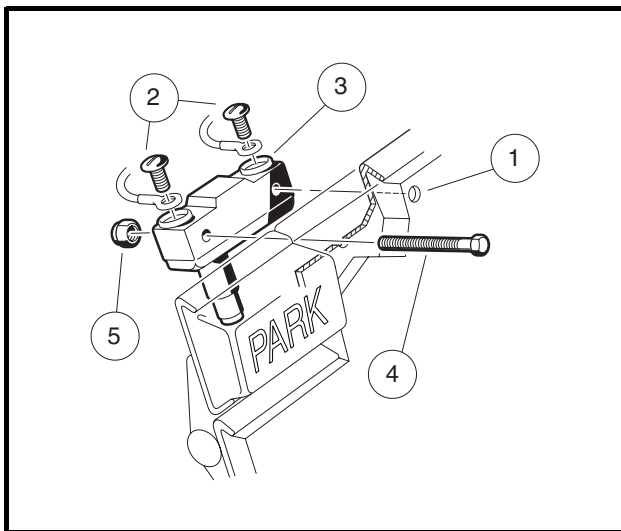
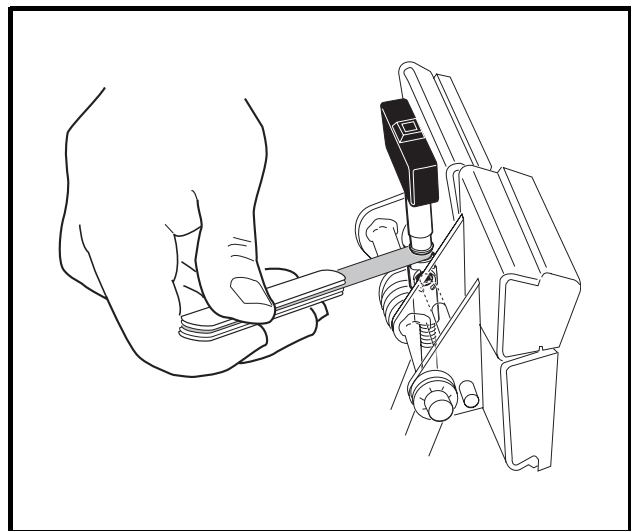

Figure 12-17 Park Brake Limit Switch
Figure 12-18 Park Brake Limit Switch Gap Adjustment
3. Remove the screws (2) securing the wire terminals to the park brake switch (3) (**Figure 12-17, Page 12-19**).
4. Remove the hex nuts (5) and machine screws (4) securing the limit switch to the brake pedal and remove the switch.
1. Secure the switch to the park brake pedal with locknuts (5) and hex-head machine screws (4) (**Figure 12-17, Page 12-19**). Set the gap between the switch and the top of the park brake rod to no more than 0.030 of an inch (0.762 mm) (**Figure 12-18, Page 12-19**). Tighten the mounting hardware to 10 in-lb. (1.1 N·m).